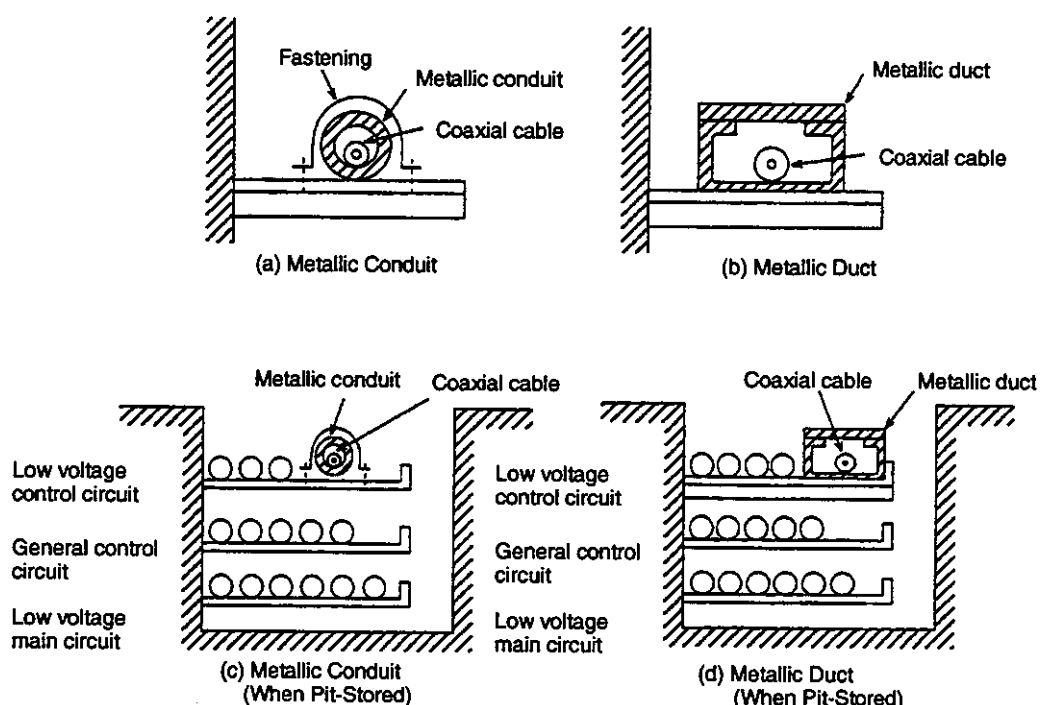

Figure 6.9 Coaxial Cable Installation
- (1) Coaxial Cables 5C-□□ and 7C-□□ must be accommodated separately in a metallic conduit or metallic duct as shown in *Figures 6.9 (a) and (b)*.
- (2) Coaxial Cables 12C-5AF are inflexible and hardly fit in with a metallic conduit. Therefore, accommodate them in a metallic duct as shown in *Figures 6.9 (b) and (d)*.
- (3) Always ground both ends of a metallic conduit or duct. The conduit or duct should be grounded at as many points as possible.